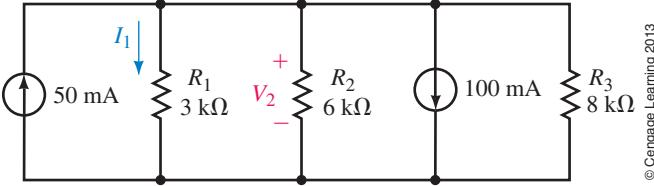

FIGURE 8–76
16. Convert the voltage sources of Figure 8–77 into current sources and solve for the current I_1 and the voltage V_{ab} .
17. For the circuit of Figure 8–78, convert the current source and the $2.4\text{-k}\Omega$ resistor into a voltage source and find the voltage V_{ab} and the current I_3 .